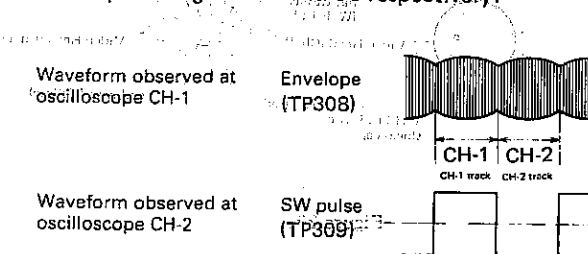

Figure 28.
2. Trigger with a switch pulse and observe the envelope (figure 28).